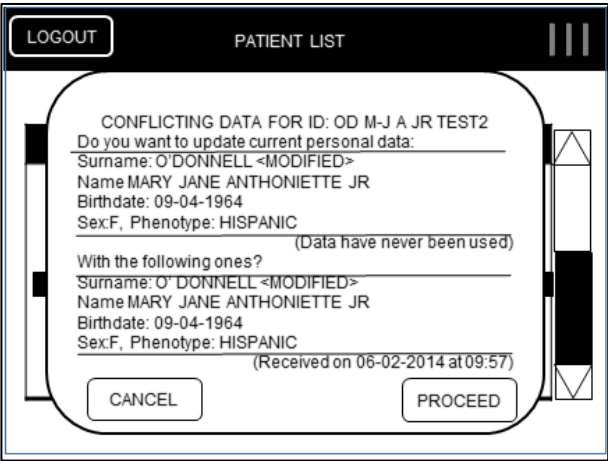
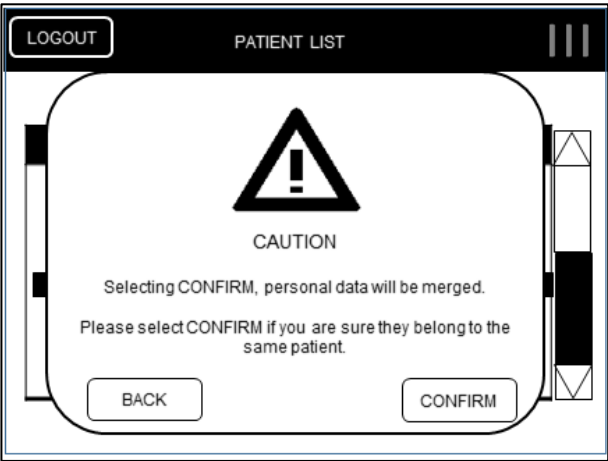

Figure 69 - Conflicting data
Figure 70 - Data merge
2. Conflicting data, due to identical Patient ID but inconsistencies in other fields. The device will ask to merge the information (Figure 69, Figure 70). If data do not belong to the same patient despite the same Patient ID, this must be edited on the remote interface.